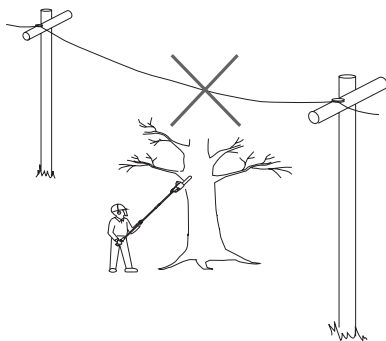

Fig. 38
**WARNING!** This product has not been designed to provide protection from electric shock in the event of contact with overhead electric lines! Therefore do not use product near cable, electric power or telephone lines. Keep a minimum distance of 10 m to all electric lines (Fig. 38).